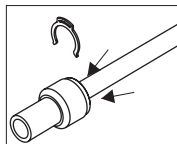

Fig. 2
- 2) Press the quick connection fitting flange symmetrically (fig. 2).